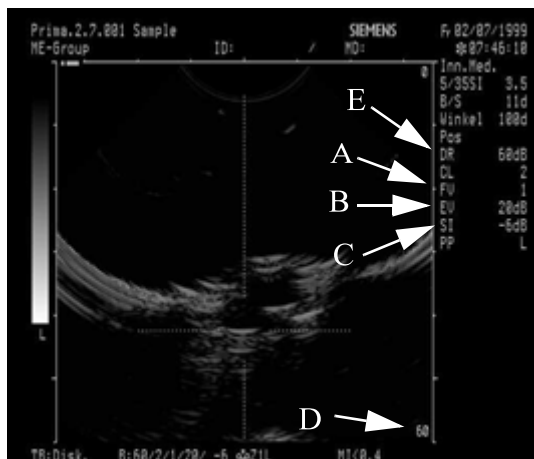

Fig. 83: Basic settings
- Use the knob  to set the value "60" (D/Fig. 83 / p. 79).